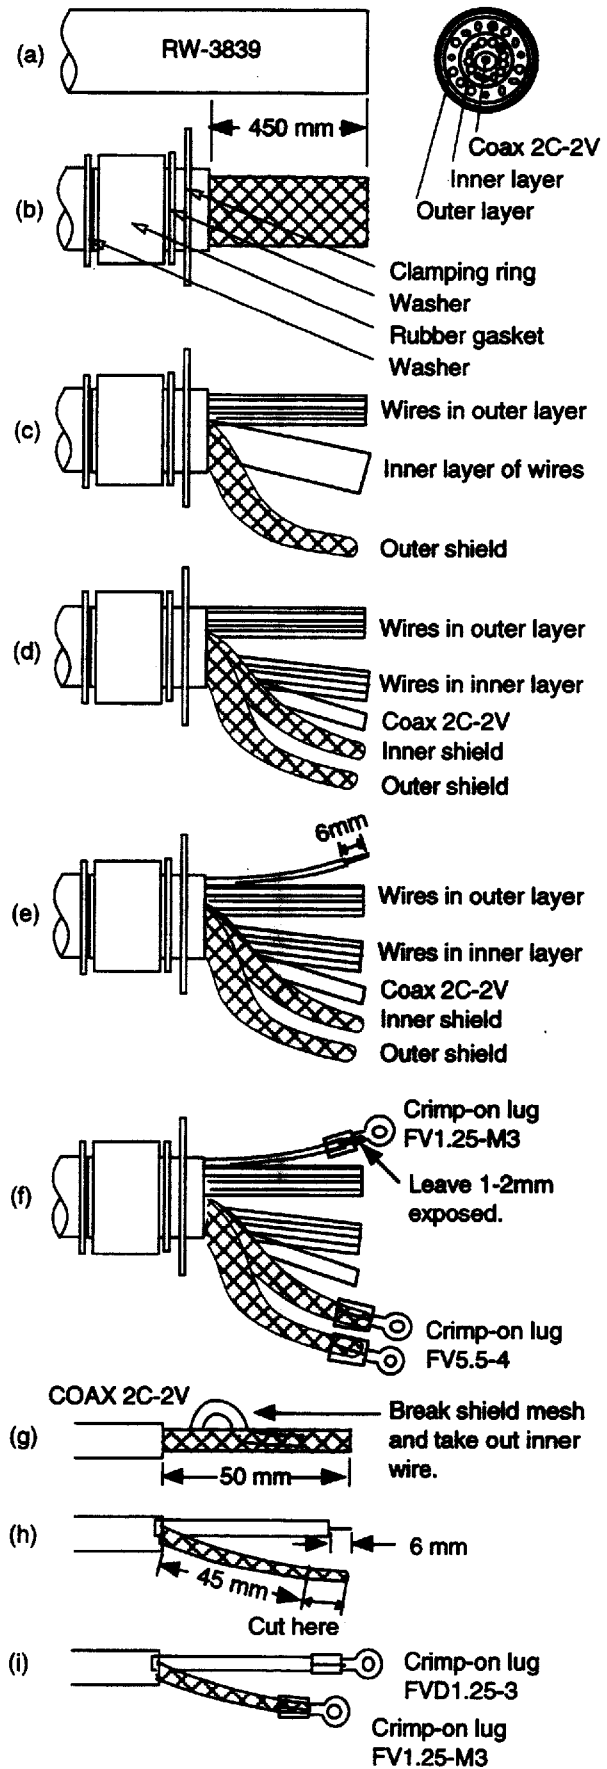

Figure 13 Fabricating signal cable RW-3839
- 7) Fabricate the coaxial wire as shown in g) and h) in Figure 13. Make the length of the wire 10mm longer than the shield to prevent wire strain. Attach crimp-on lug FVD1.25-3 (red,  $\phi 3$ ) to the coaxial wire and FV1.25-M3 to the shield.